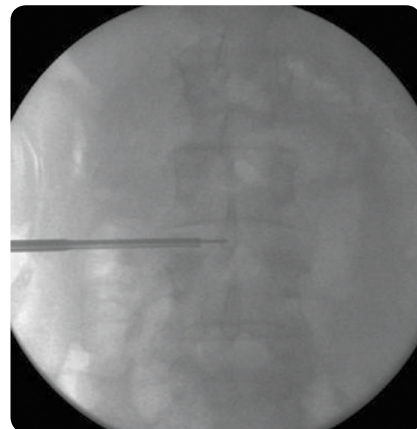

Figure 17
Step 5 AP fluoroscopy is used to confirm proper probe alignment into the disc space and the blue stimulating handle is then removed, leaving only the insulated cannula within the disc space. A guidewire is then placed through the cannula into the desired disc space and its position confirmed with AP fluoroscopy (**Figure 17**).